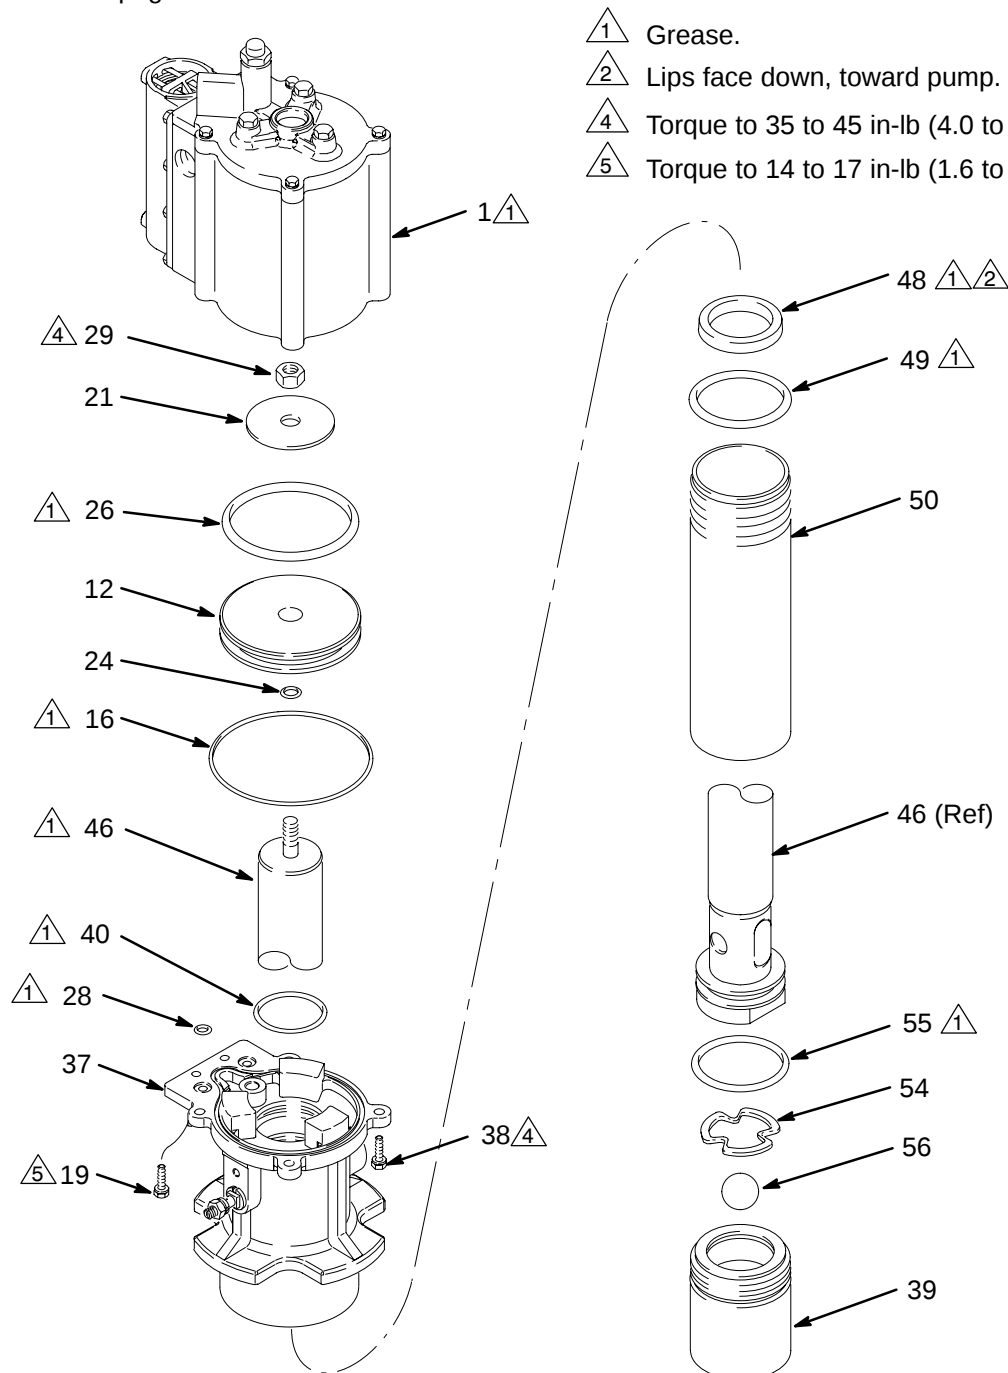
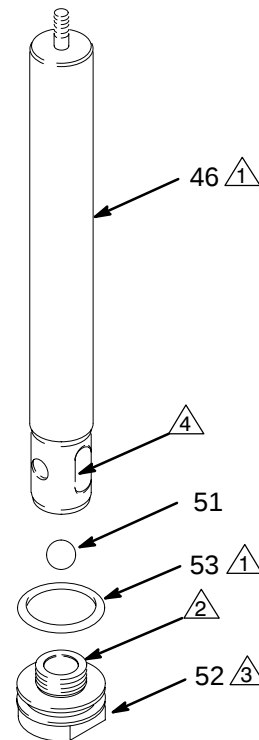

Fig. 5
Fig. 6
2. Remove the four screws (38) and two screws (19) holding the air motor base (37) to the air motor cylinder (1). Pull the cylinder off the base, remove the large o-ring (16) and two small o-rings (28), and set these parts aside. See Fig. 5.
3. Unscrew the intake valve housing (39) from the pump cylinder (50). Disassemble the intake valve.
4. Use a strap wrench on the pump cylinder (50) to loosen it from the motor base (37). Continue to unscrew the cylinder from the motor base by hand until the cylinder comes free. Pull the cylinder off the pump. See Fig. 5.
5. Hold the flats of the fluid piston (52) in a vise. Unscrew the nut (29) from the top of the displacement rod (46). Remove the washer (21), o-ring (3g), piston o-ring (26), and air motor piston (12) and set them aside. Pull the motor base (37) up off the displacement rod.
6. Using a wrench on the flats of the displacement rod (46), unscrew the rod from the piston (52). Remove the ball (51) and o-ring (53). See Fig. 6.
7. Remove the o-ring (49) and block packing (48) from the inside bottom of the motor base (37).
8. Remove the o-ring (40) from inside the base.
- 4 Flats of rod (46).
1. Grease the o-ring (40) and install it inside the top of the base. See Fig. 5.
2. Grease the block packing (48) and install it in the motor base (37). The lips of the packing must be facing down, toward the pump. Grease the o-ring (49), and install it in the bottom of the motor base (37).
3. Grease the displacement rod (46) and slide it down into the air motor base (37) so the narrow end protrudes from the top of the base.
4. Grease the o-ring (53) and install it on the fluid piston. Apply thread sealant (113500) to the piston threads. Place the piston upright in a vise with the jaws on the flats. Set the ball (51) on the piston seat. Screw the displacement rod (46) with the motor base (37) onto the piston. Using a wrench on the flats of the rod, torque to 40 to 60 ft-lb (54 to 81 N.m). See Fig. 6.
5. Install one o-ring (3g), the air motor piston (12), and the flat washer (21) on the displacement rod (46). Make sure the chamfer side of the piston (12) is facing down toward the o-ring (3g). Screw the nut (29) onto the displacement rod (46). Torque to 35 to 45 in-lb (4.0 to 5.1 N.m). Grease the large o-ring (26) and install it in the outer groove of the piston (12). See Fig. 5.
6. One end of the cylinder (50) has threads on the outside. Slide this end over the fluid piston and into the motor base (37) so the threads engage with the base. Screw the cylinder into the base by hand, then place the base in a vise with soft jaws.
7. Grease the o-ring (55) and install it on the intake valve housing (39). Install the ball (56) and ball retainer (54), and screw the valve housing securely into the cylinder (50). Use a pipe wrench on the knurled portion of the intake valve housing to tighten the valve and cylinder.
8. Remove the pump from the vise. Grease the large o-ring (16) and two small o-rings (28), and install them on the motor base (37). Grease the inside of the air motor cylinder (1), and position it on the base. Install the four screws (38) and torque to 35 to 45 in-lb (4.0 to 5.1 N.m). Install the two screws (19) and torque to 14 to 17 in-lb (1.6 to 1.9 N.m).